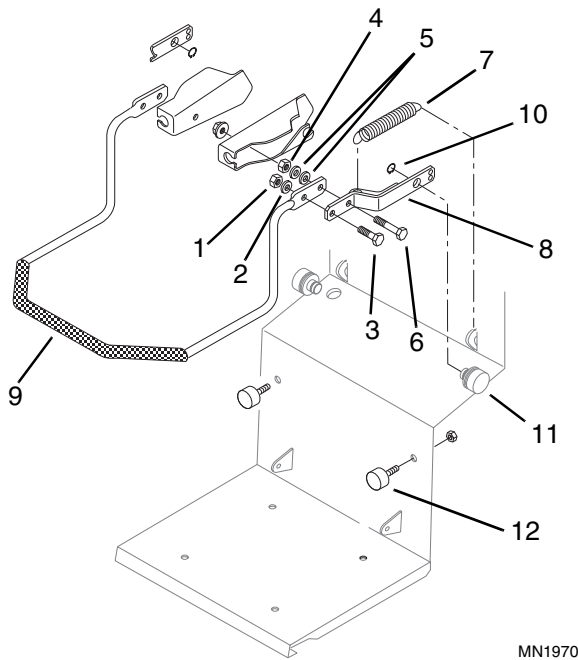

Figure 9-97 Seat Restraint Bar
1. Position both restraint bar pivot arms (Fig. 9-97, 8) on the pivot mounts (11), and secure with retaining rings (10).
2. Install the restraint bar (Fig. 9-97, 9) on both restraint bar pivot arms (8) using capscrew (6), flat washers (5) and new hex elastic locknut (4) inserted into the rear holes, but NOT tightened.
3. Connect spring (Fig. 9-97, 7) on each side between the restraint bar pivot arm (8) and seat platform.
4. Install a capscrew (Fig. 9-97, 3), flat washer (2) and new hex elastic locknut (1) in the front of each restraint bar pivot arm and tighten.
5. Tighten the capscrew (Fig. 9-97, 6), flat washers (5) and hex elastic locknut (4) left loose in Step 2.